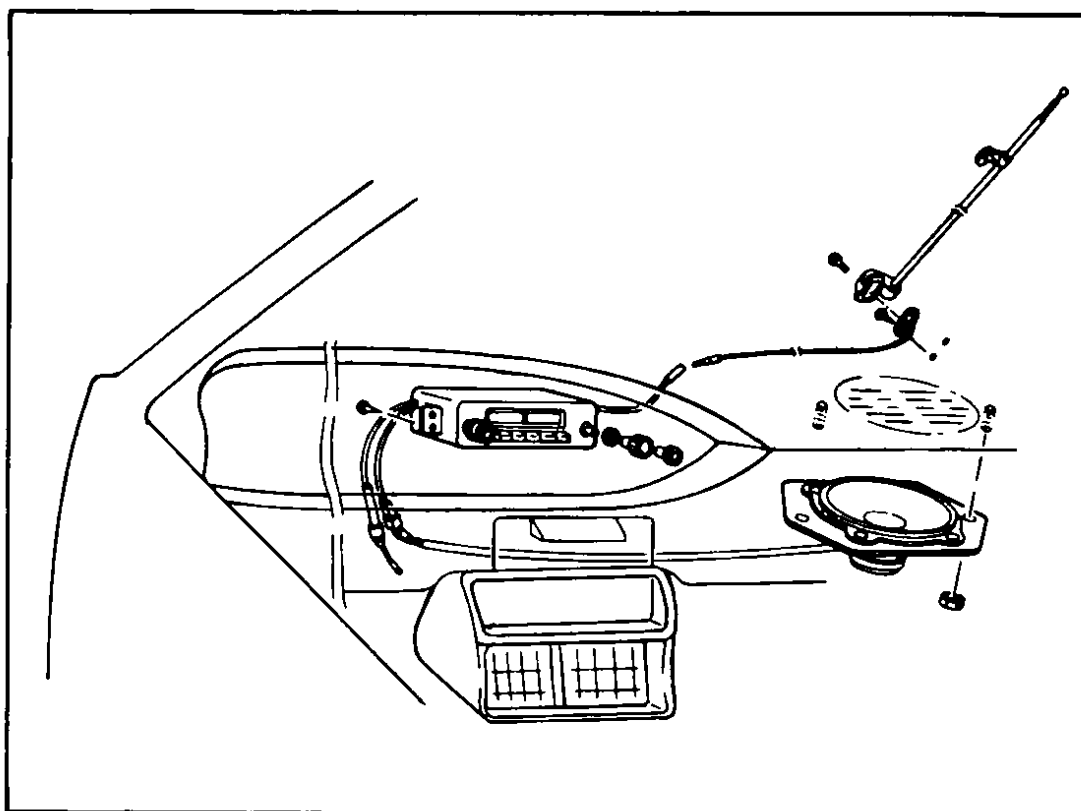

Fig 80 Radio installation – Model 710
- 7 Remove the four retaining screws and remove the radio, Fig 80